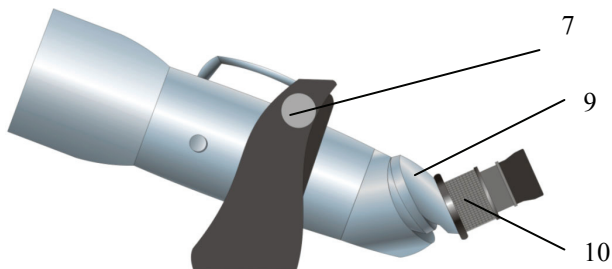

Fig. 2
The adjustment is performed by rotating of two eccentrics (9) (Figure 2). The observer is supposed to find the distance suitable for his individual normal viewing.